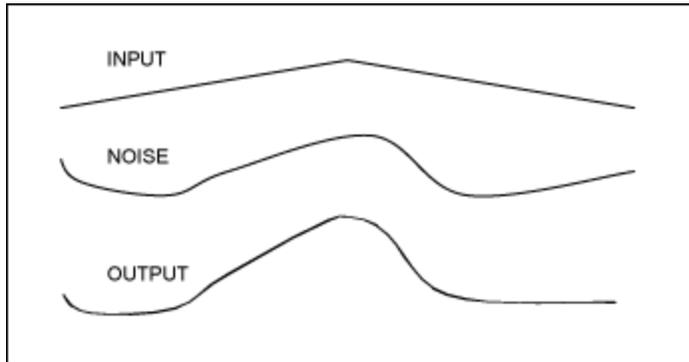
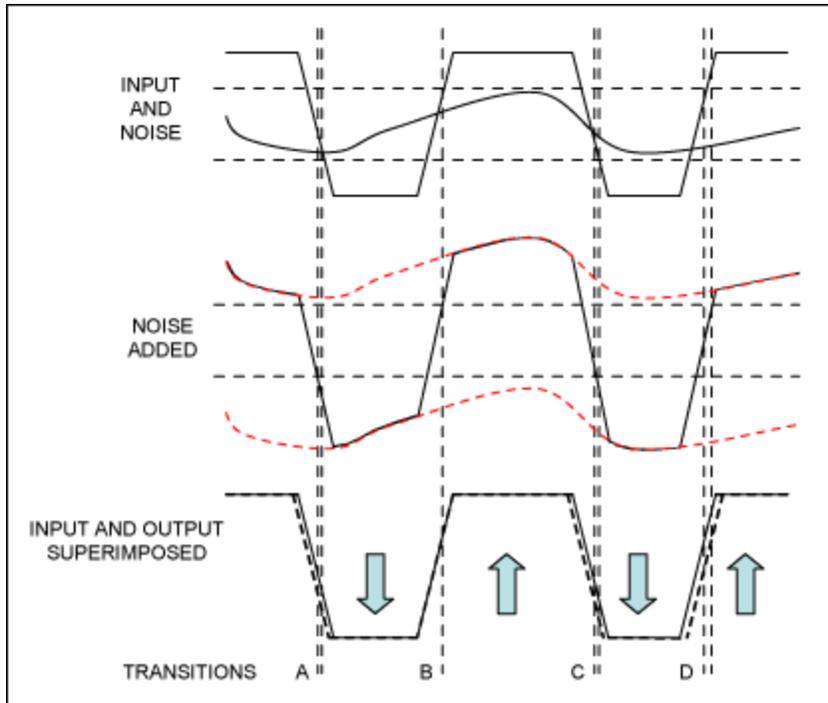

Figure 1. An input signal, noise, and the two added together.
Figure 3. Signal plus noise with the resulting time errors.
Designers expect analog signals to be easily affected by noise. The lower waveform in **Figure 1** is the direct result of adding noise to the signal, obviously a bad thing. However, digital is thought to be protected by thresholds. This thinking is erroneous, as we will see.
**Figure 3** repeats parts of Figures 1 and 2, but adds vertical lines to illustrate how the analog noise changed the output timing. Clearly, more than just missing the amplitude (up and down) thresholds is necessary. Looking carefully at the transitions, we see that the negative transition "A" is early compared to its intended position. The positive transition "B" is very close, so we drew a single line. Negative transition "C" is early and positive transition "D" is late. The noise has been transformed from amplitude error to time-jitter positional errors. If the signal is sampled at the arrows, the information will be preserved. However, if signal frequency was higher, the time error would be larger as a percentage. Eventually the sample points will be compromised.